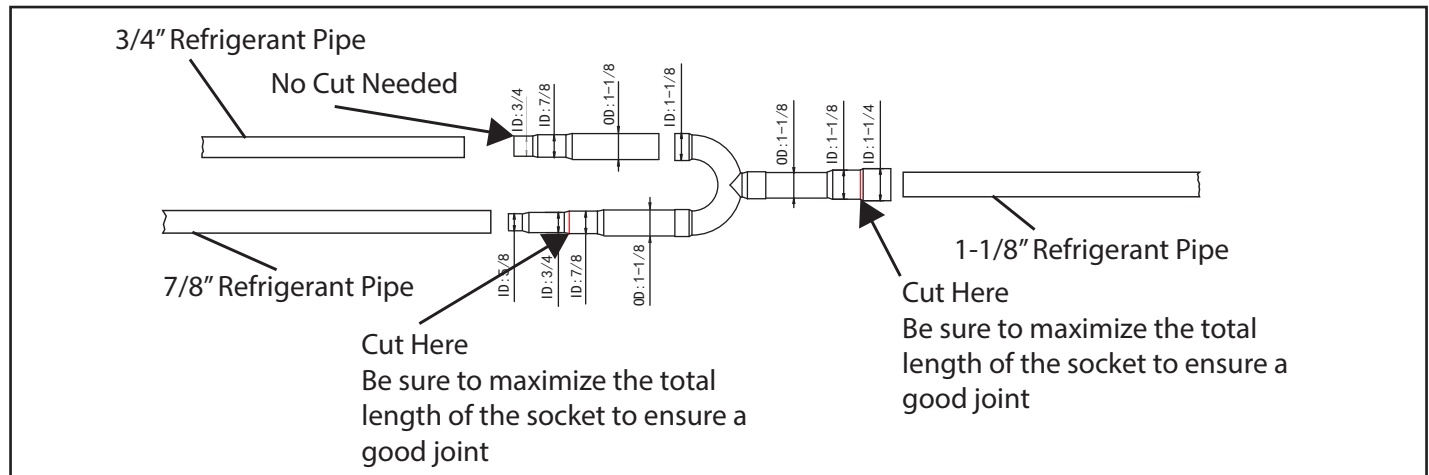

**Figure 17. Vertical Installation**
- The piping can be cut to suit the installation needs. See figure 17.